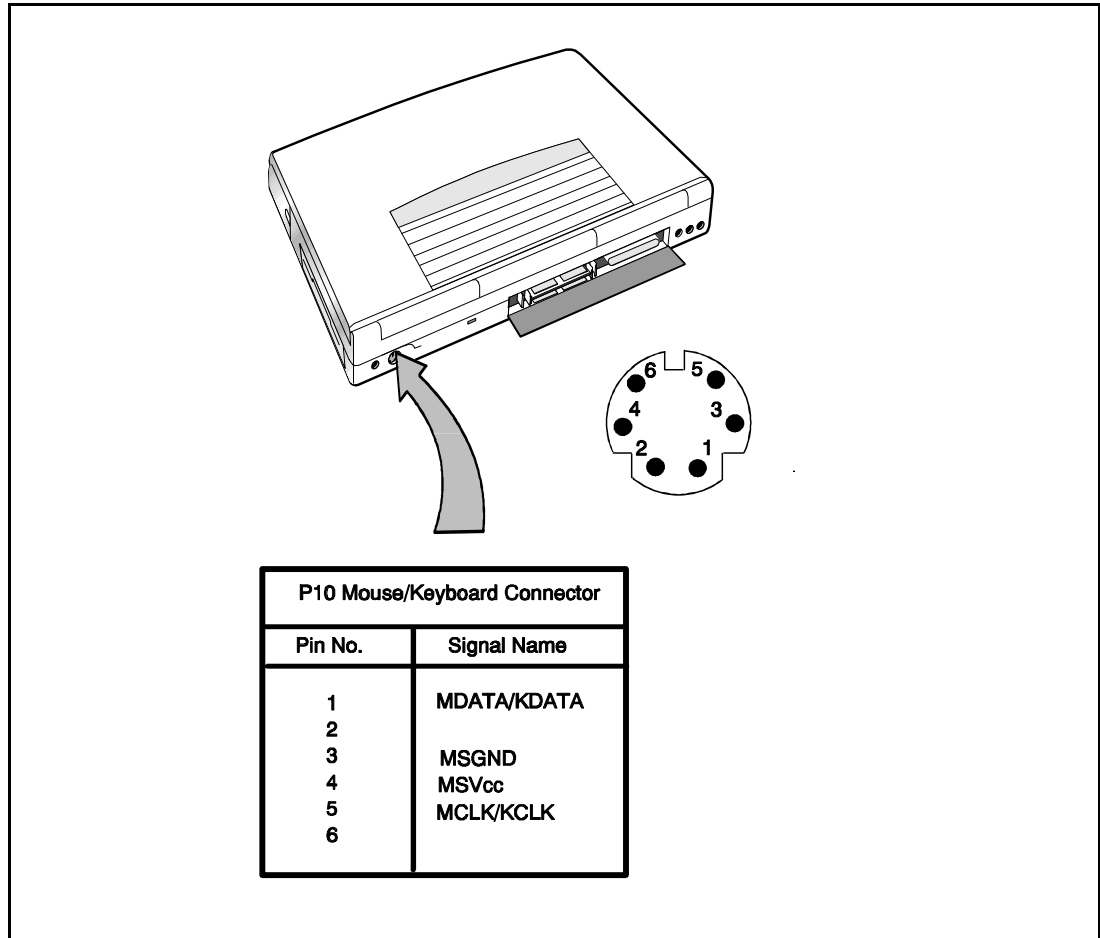
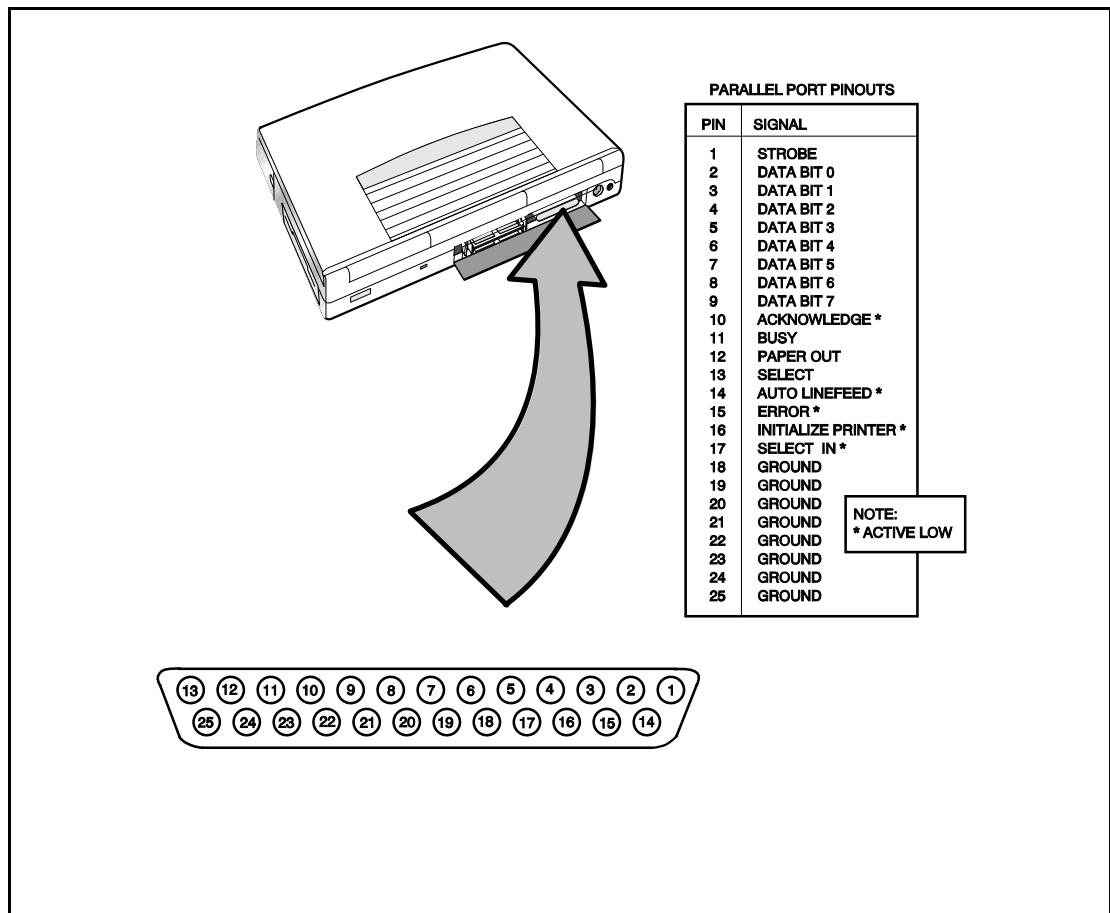

Figure 2-5 PS/2 Port Assignments/Pinouts
Figure 2-6 Parallel Port Location/Pinouts
As shown in Figure 2-5, the notebook has provisions for two external PS/2 compatible devices (keyboard, mouse, etc.) that may be attached to the notebook. The pinouts for the 6-pin Mini-DIN connectors are also provided in Figure 2-6.
2. Locate the external PS/2 port at the rear of the notebook (refer to Figure 2-5).
The Notebook is equipped with a bidirectional, ECC/EPP compatible, 25-pin parallel printer port. The connector pinouts and connector location are shown in Figure 2-6.